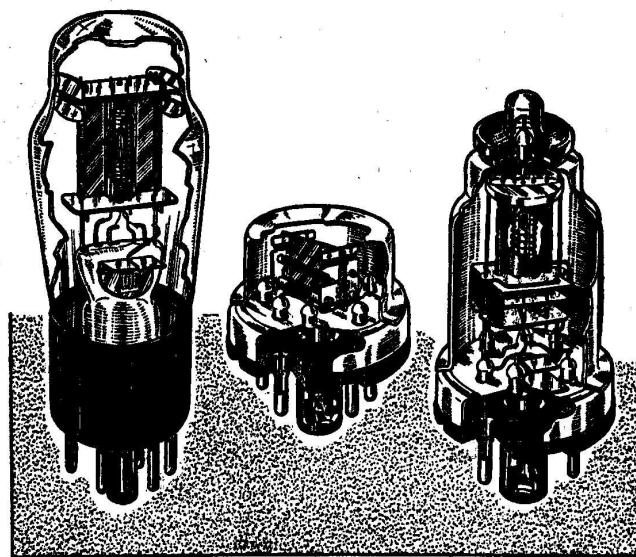

FIG. 5. Cut-away views showing the elements within typical radio tubes.
**Radio Tubes.** A tube is perhaps the most familiar of all the parts in the radio. As shown in Fig. 5, it consists essentially of a glass or metal bulb, inside of which are a number of pieces of metal and wire. Heat is necessary for the operation of radio tubes, so one of the pieces of wire is arranged in the form of a filament, somewhat similar to the filament in a lamp bulb or light globe. An electric current flowing through this filament produces heat, and this heat makes it possible for the tube to operate. If too much current flows through the filament, the heat may become so great that the filament wire will melt. This breaks or *opens* the filament circuit, and the tube will no longer work.